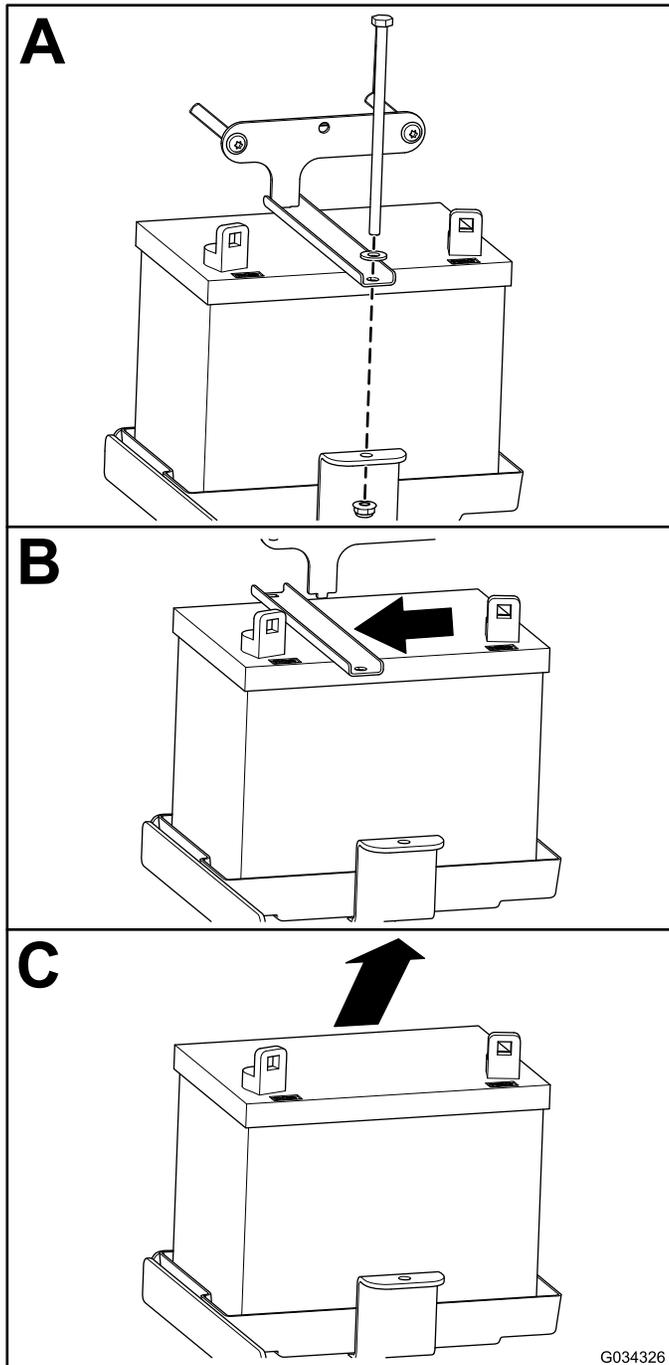

Figure 50
2. Remove the battery as shown in Figure 50.